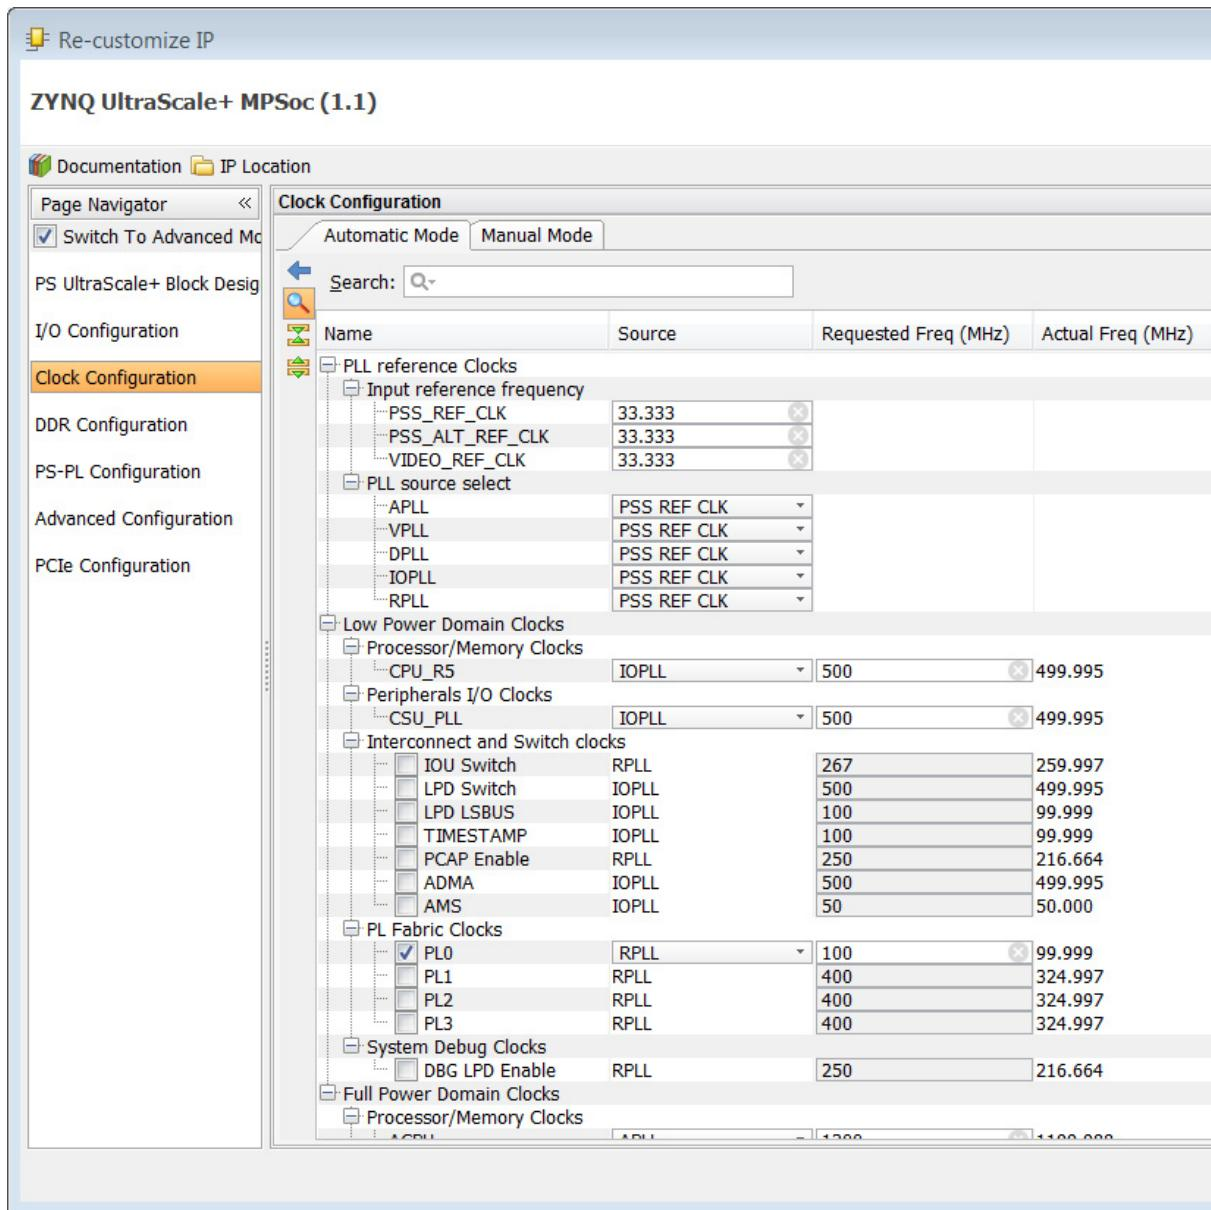

Figure 3-23: Clock Configuration Page
- From the Page Navigator, click **Clock Configuration** as shown in Figure 3-23, page 70.